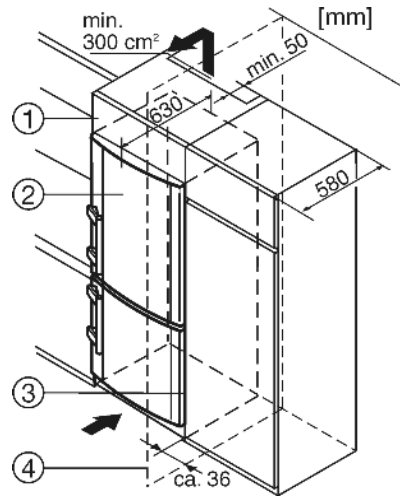

Fig. 10
- (1) Stack cabinet
- (2) Appliance
- (3) Kitchen cabinet
- (4) Wall
The appliance can be inserted into a row of kitchen units. To match the appliance Fig. 10 (2) to the height of the row of units, a suitable stack cabinet Fig. 10 (1) can be fitted above the appliance.
When inserting the appliance into a row of standard kitchen units (max. depth 580 mm), the appliance can be installed directly next to the kitchen unit Fig. 10 (3). The appliance door projects relative to the front of the kitchen unit by 34 mm at the side and by 50 mm in the middle of the appliance. It can be opened and closed perfectly as a result.
If the appliance is installed with the hinges next to a wall Fig. 10 (4), the distance between appliance and wall has to be at least 36 mm. This corresponds to the projection of the handle when the door is open.